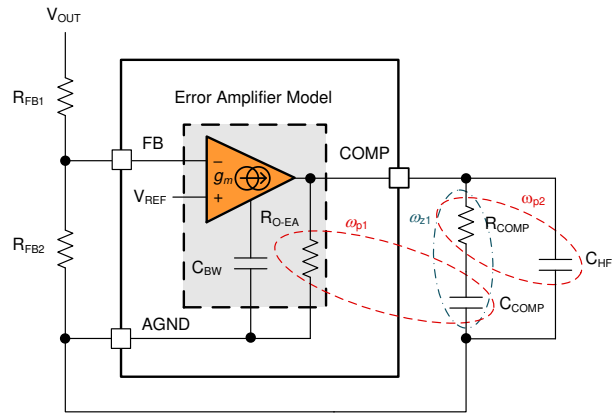

图 9-4. Error Amplifier and Compensation Network
图 9-4 shows a type-II compensator using a transconductance error amplifier (EA). The dominant pole of the EA open-loop gain is set by the EA output resistance,  $R_{\text{O-EA}}$ , and effective bandwidth-limiting capacitance,  $C_{\text{BW}}$ , as shown by 方程式 29.